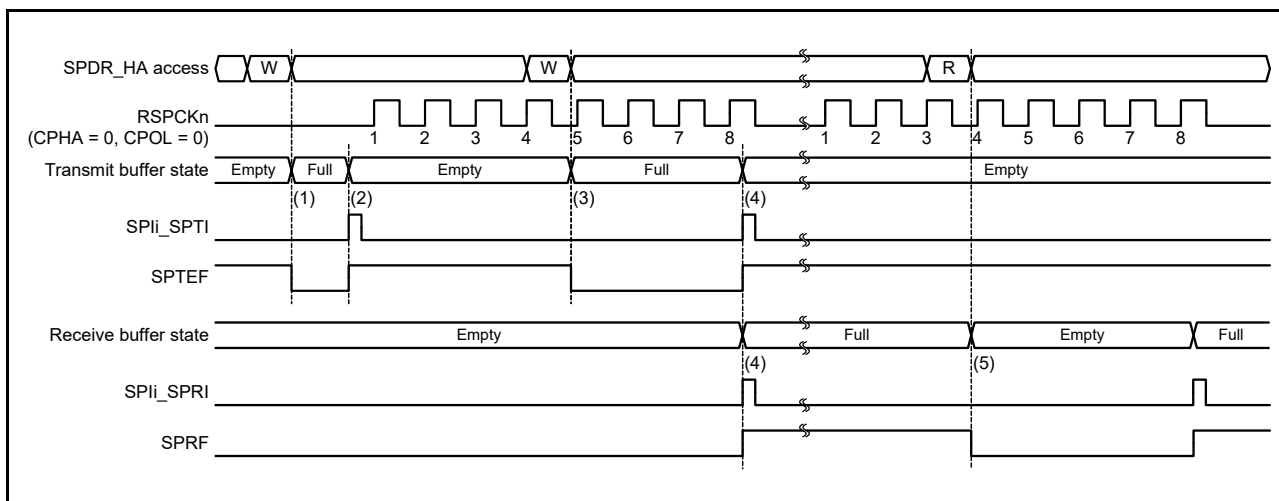
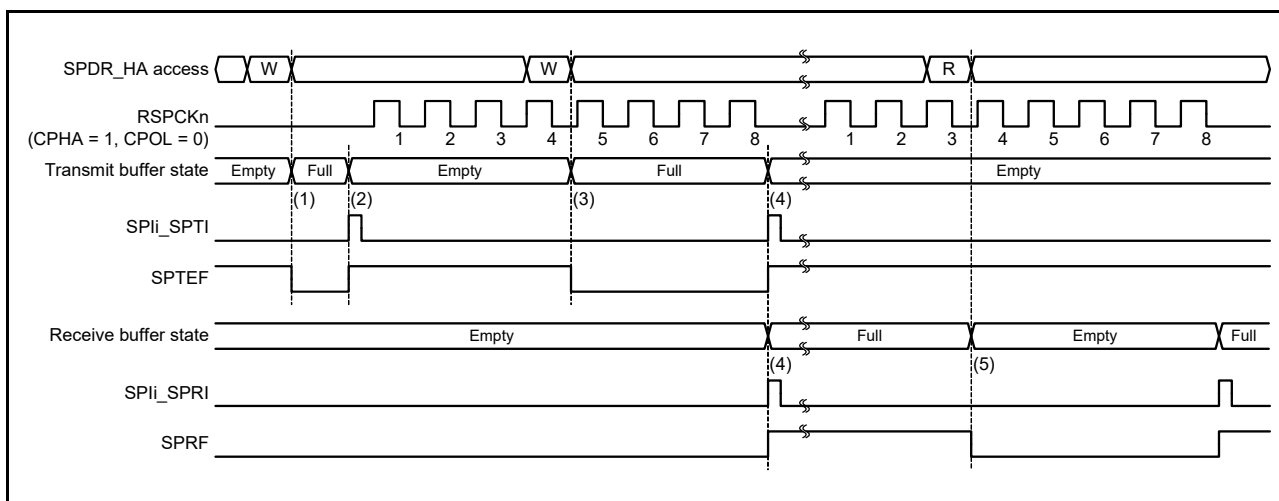

Figure 31.26 Operation example of SPIi_SPTI and SPIi_SPRI interrupts when CPHA = 0 and CPOL = 0
Figure 31.27 Operation example of SPIi_SPTI and SPIi_SPRI interrupts when CPHA = 1 and CPOL = 0
Figure 31.26 and Figure 31.27 show operation examples of the transmit buffer empty interrupt (SPIi_SPTI) and the receive buffer full interrupt (SPIi_SPRI). The register accesses shown in these figures indicate the conditions of access to the SPDR_HA register, where W denotes a write cycle and R a read cycle. In Figure 31.26, the SPI performs an 8-bit serial transfer when SPCR.TXMD bit is 0, the SPDCR.SPFC[1:0] bits are 00b, the SPCMDm.CPHA bit is 0, and the SPCMDm.CPOL bit is 0.
In Figure 31.27, the SPI performs an 8-bit serial transfer in which SPCR.TXMD bit is 0, the SPDCR.SPFC[1:0] bits are 00b, the SPCMDm.CPHA bit is 1, and the SPCMDm.CPOL bit is 0. The numbers given for RSPCKn in the waveform represent the number of RSPCK cycles, such as the number of transferred bits.
The operation of the SPI at timings (1) to (5) in Figure 31.27 is as follows: